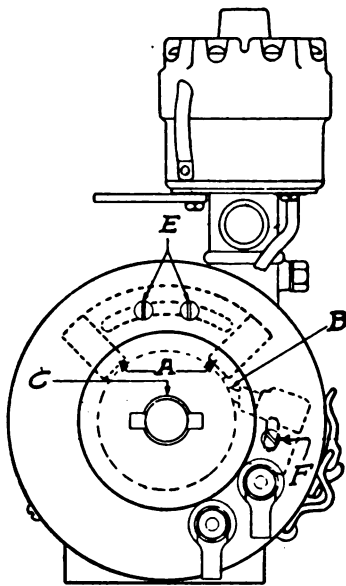

Fig. 293. Diagram of Arrangement of Brushes on Leece-Neville 6-Volt Generator
**Regulation.** Generators of the 1915 and 1916 models are controlled by armature reaction through a third brush, the field coils receiving their exciting current from the armature through this brush. The position of the latter on the commutator is shown at *B*, Fig. 293. A slight rotation of this brush relative to the com-
*Regulating Brush.* In case the generator output falls off as shown by its inability to keep the battery properly charged, the battery itself and all connections being in good condition, and a proper amount of day running being done to provide the necessary charging current, the trouble may be in the regulating brush of the generator. Test by inserting an ammeter, such as the Weston portable or any other good instrument with a scale reading to 30 amperes, in the line between the generator and the battery. Run the engine at a speed corresponding to 20 miles per hour, at which rate the ammeter should record a current of approximately 15 amperes. If the ammeter needle butts against the controlling pin at the left end of the scale instead of showing a reading, it indicates that the polarity is wrong, and the connections should be reversed. Should there be no current whatever, the needle will stay perfectly stationary except as influenced by vibration. If the ammeter shows a reading of less than 15 amperes, the current output of the generator may be increased by loosening the set screw holding the third brush and rotating the brush slightly in the same direction as the rotation of the armature. This should be done with the generator running and the ammeter in circuit, noting the effect on the reading as the brush is moved. To decrease the output, it should be moved in the opposite direction until the proper reading is obtained, after which the brush must be sanded-in to a good fit on the commutator. It may sometimes occur that sufficient movement cannot be given the third brush without bringing it into contact with one of the main brushes. This must be avoided by loosening the two set screws *E*, Fig. 293, and moving the main brush holder away
To increase the output of the generator, rotate the third brush in the direction of rotation of the armature; to decrease the output, move the brush against the direction of rotation. Adjustments should be made with the engine standing. Loosen the screw at the rear of the commutator housing shown at the point *F*, Fig. 293. This releases the third brush holder, and the brush may then be moved in the direction desired. It should be moved only a short distance,
and the generator then should be tested until the desired output is secured. In case the third brush should come in contact with the main brush above in the course of adjustment, it will be necessary to move the main brushes. To do this, loosen the two set screws *E*, Fig. 293, and move the main brush holder far enough away from the third brush so that there is no possibility of contact between them. When the desired location is found, sand-in the third brush to the commutator and also clean the commutator with a piece of worn sandpaper as described in the section on Sanding-In the Brushes (Delco instructions); if it has been necessary to move the main brushes, they should be sanded-in also. The brush holder screws should be well tightened after making any adjustments to prevent any possibility of the vibration and jolting loosening them up and throwing the generator out of adjustment again.